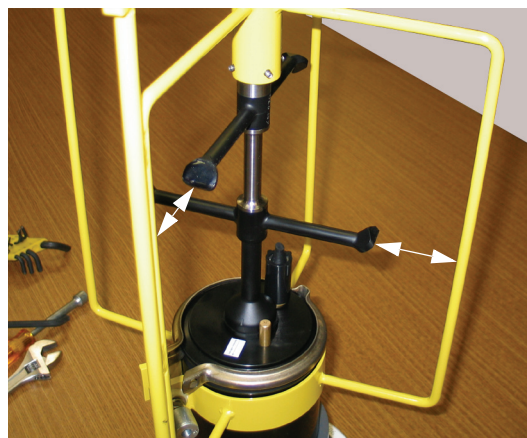

Figure 7-9: Aligning Fingers of Velocity Head with Mooring Frame
- 2 Reassemble the 2D-ACM in the reverse order of disassembly, making sure to align the fingers of the velocity head with the mooring frame for maximum protection as shown in Figure 7-9.